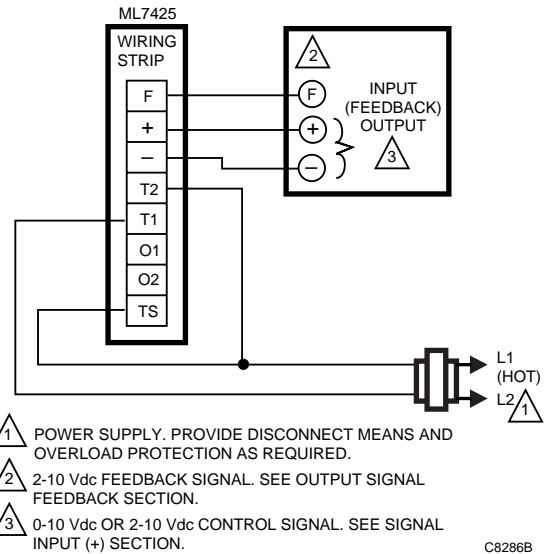

Fig. 7. ML7425 wiring diagram using feedback output from another controller with one transformer.
All wiring must comply with local electrical codes, ordinances and regulations. Voltage and frequency of the transformer used with the ML7425 must correspond with the characteristics of the power supply and those of the actuator. See Fig. 7 through 11 for typical wiring hookups.
2. Using the wiring diagrams in Fig. 7 through 11, connect power and control wires to the ML7425. Make sure that all wiring is correct.